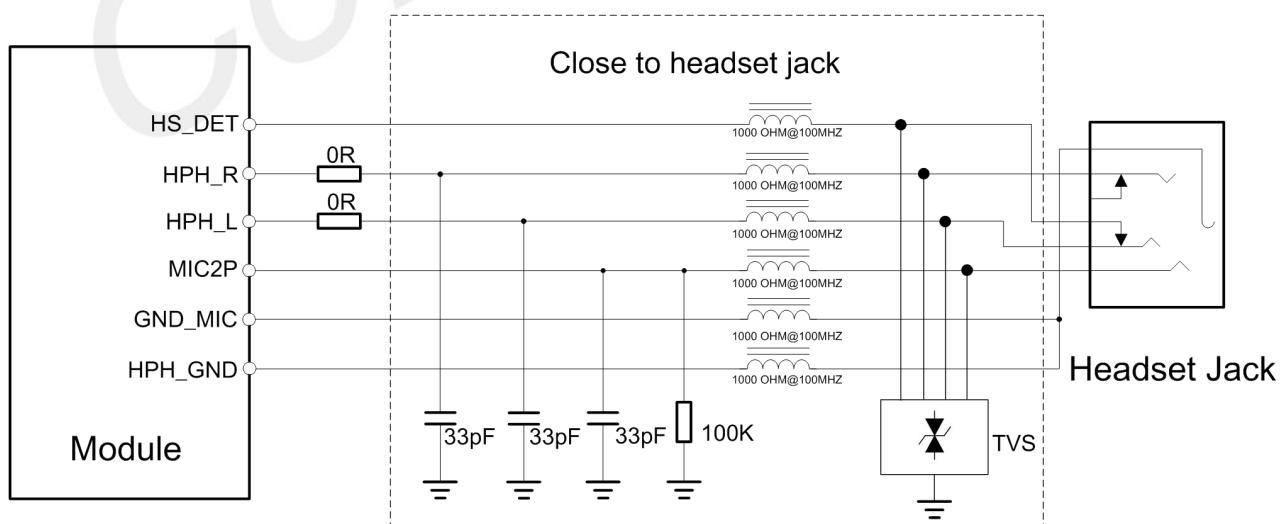

Figure 22: Headset reference circuit
A 100KΩ pull-down resistor is integrated at HPH\_L pin, which could be used for mechanical insertion or removal detection through HS\_DET pin. Figure 22 shows the reference circuit for normally-closed (NC) type headset jack.